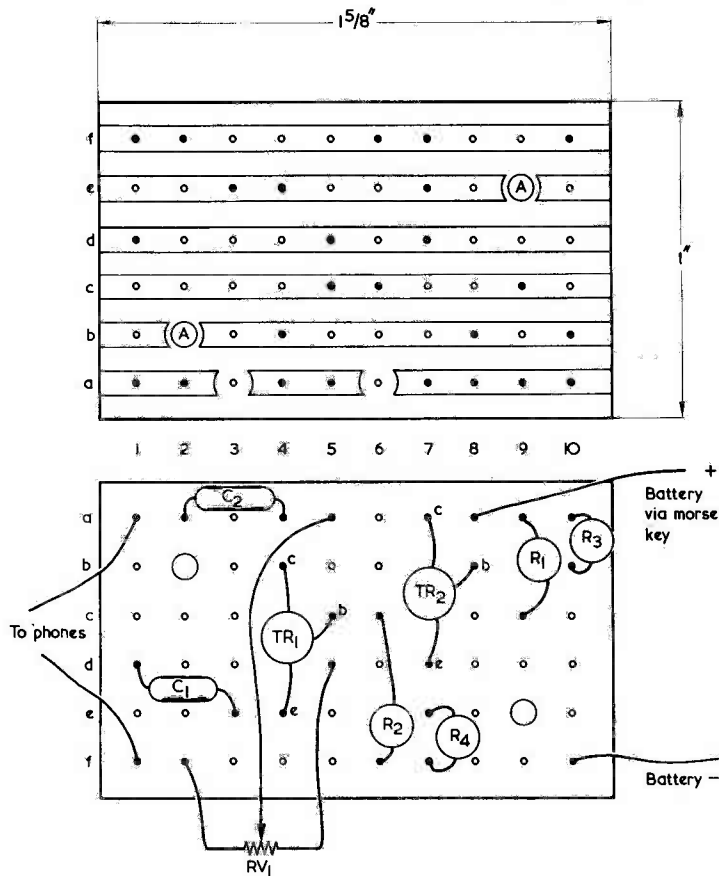

Fig. 2. Assembling the components on the Veroboard. The copper side of the board is shown above, and the component side below
- Veroboard, 0.15in matrix, dimensions as in Fig. 2